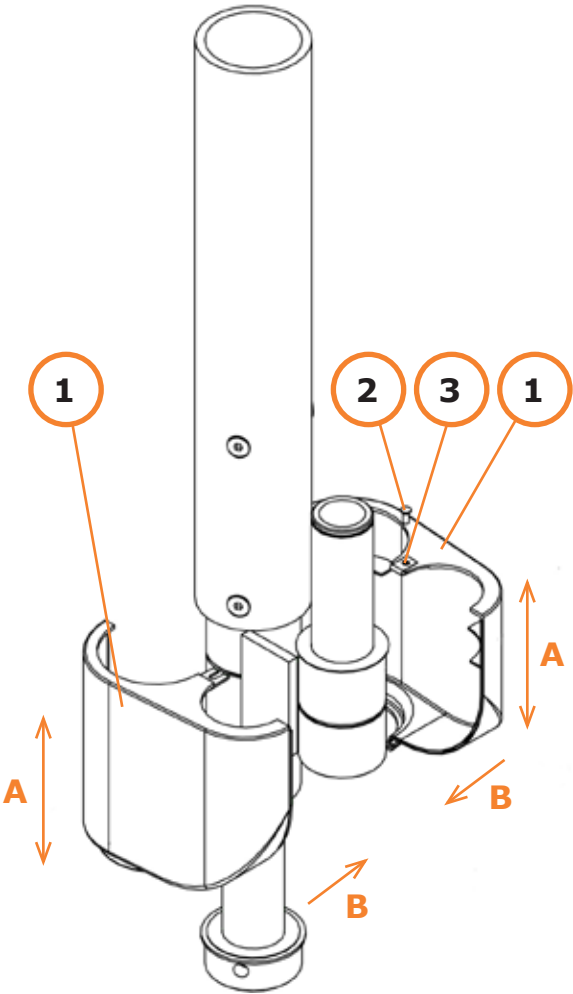

Fig. 17
To avoid damage to the plastic cover during shipping, the two halves comprising the cover (1/Fig. 17/18) must be attached on site. To ensure proper installation of the cover, please complete following steps:
- 7.1.1 Remove the plastic cover from the shipping carton; ensure it is in good condition. Carefully remove the mounting screw(s) (2/Fig. 17/18) and speed nut(s) (3/Fig. 17/18) making sure to store them in a safe place for later use.
- 7.1.2 Place the speed nut(s) (3/Fig. 17/18) on screw hole of the column cover.
- 7.1.3 Ensure both halves vertically align (A/Fig. 17/18). Once the height of both halves is level, gently press them in direction (B/Fig. 17/18). Ensure the pegs inside the cover will click into the grooves when snapping them together.
Make sure that the cover's screws (2/Fig. 17/18) are not screwed too tight, stripping the thread of the cover. Replace the cover if the screw hole has been stripped.
- 7.1.4 To secure the plastic cover to the column, tighten the mounting screw (2/Fig. 17/18) into the thread.
- 7.2.1 Remove the screw(s) (2/Fig. 17/18) from the plastic cover and store them in a safe place.
- 7.2.2 Gently, separate the plastic halves near the top, in direction opposite to (B/Fig. 17/18).
- 7.2.5 After the removal of the plastic halves, insert the screw(s) (2/Fig. 17/18) into the thread to avoid losing it.